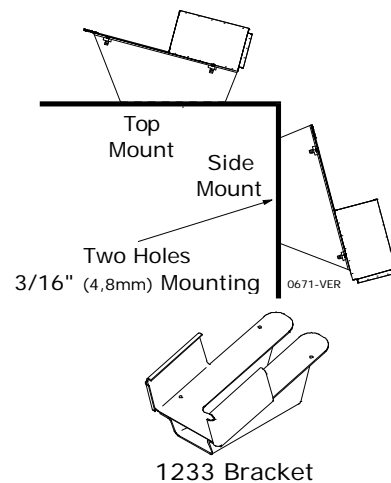

Figure 20 – Hand Held Mount
- A holding bracket is available for the Hand Held Remote (see Figure 20). It is recommended that the Hand Held Remote be used in a holding bracket. Brackets can be located where needed.